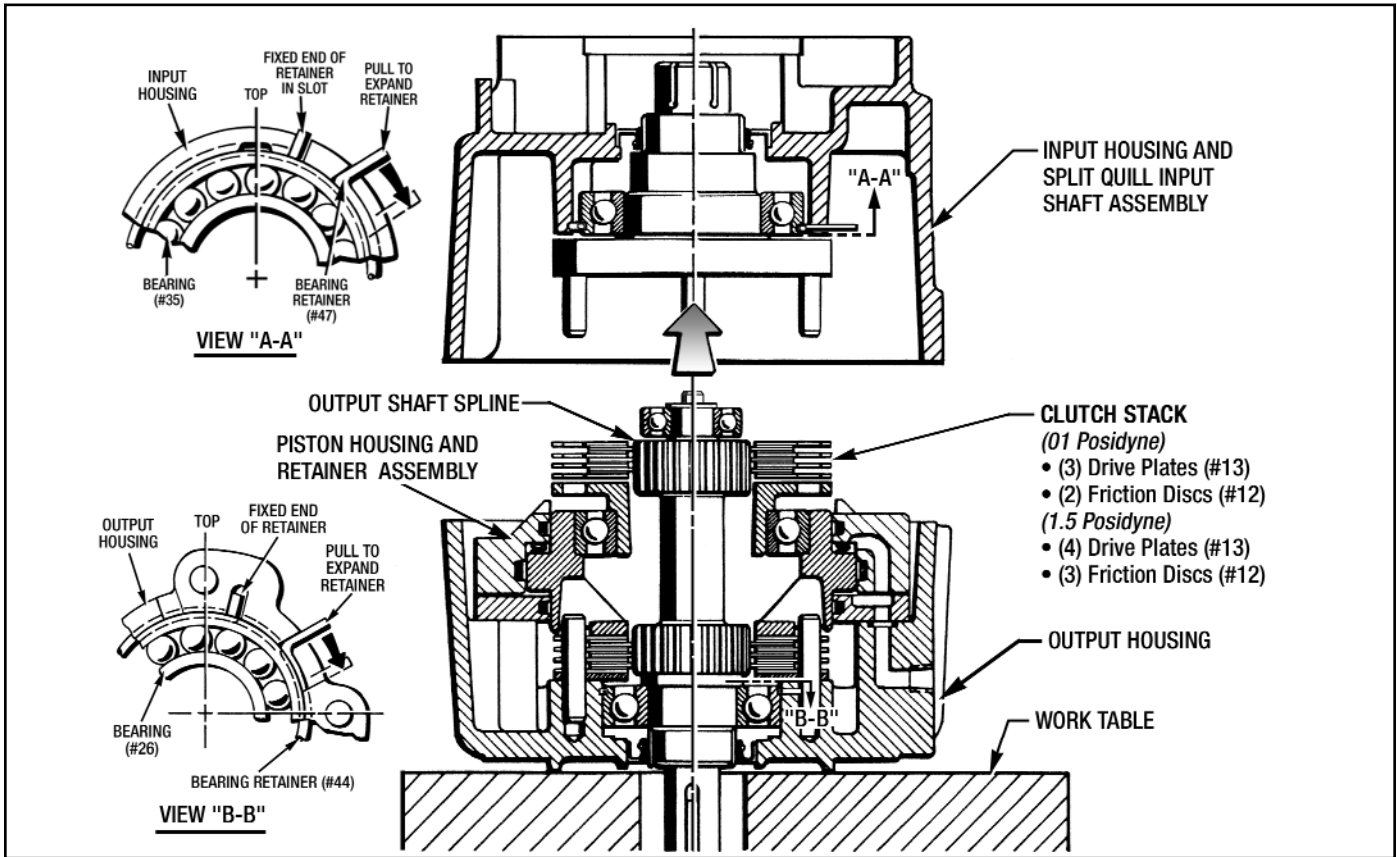

Figure 7.2 - Access to the Clutch Stack
(See Figures 7.2, 7.3 and 10.1)
5. The **Clutch Stack** can now be removed from the Output shaft spline. This includes Drive Plates (#13), Friction Discs (#12) and Separator Springs (#349). (See Figure 7.2)
6. Remove (2) Screws (#63) and (2) Lockwashers (#127) from the Piston Housing Assembly. Also remove the (2) Shoulder Bolts (#150). Pull the Piston Housing Sub-assembly out of the Output Housing and over the end of the Output Shaft (#1).
5. The **Clutch Stack** can now be removed from the Output shaft spline. This includes Drive Plates (#13) and Friction Discs (#12). (See Figure 7.2)
6. Remove (4) Screws (#63) and (4) Lockwashers (#127) from the Piston Housing Assembly. Pull the Piston Housing Sub-assembly out of the Output Housing and over the end of the Output Shaft (#1).
2. Pull the long tang of the Bearing Retainer Ring (#47) over to expand it, so the Bearing (#35) can be pushed out of the bearing bore. (See View A-A in Figure 7.2)
1. Pull the long tang of the Bearing Retainer Ring (#44) over to expand it, so the Bearing (#26) can be pushed out of the bearing bore. (See View B-B in Figure 7.2)